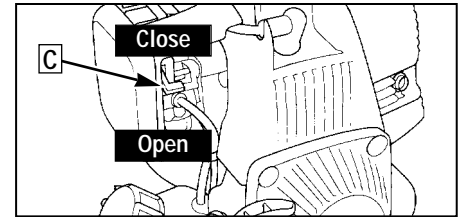

Figure 5
Engine Choke (Section 4, Figure 5)
2. To start a cold engine, move the choke lever (C, Figure 5) to the CLOSED position. To restart a warm engine, leave the choke lever in the OPEN position.